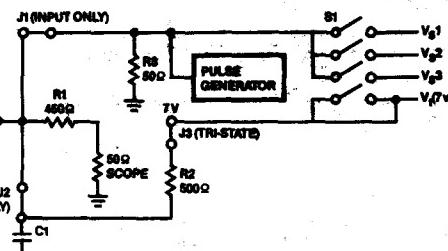
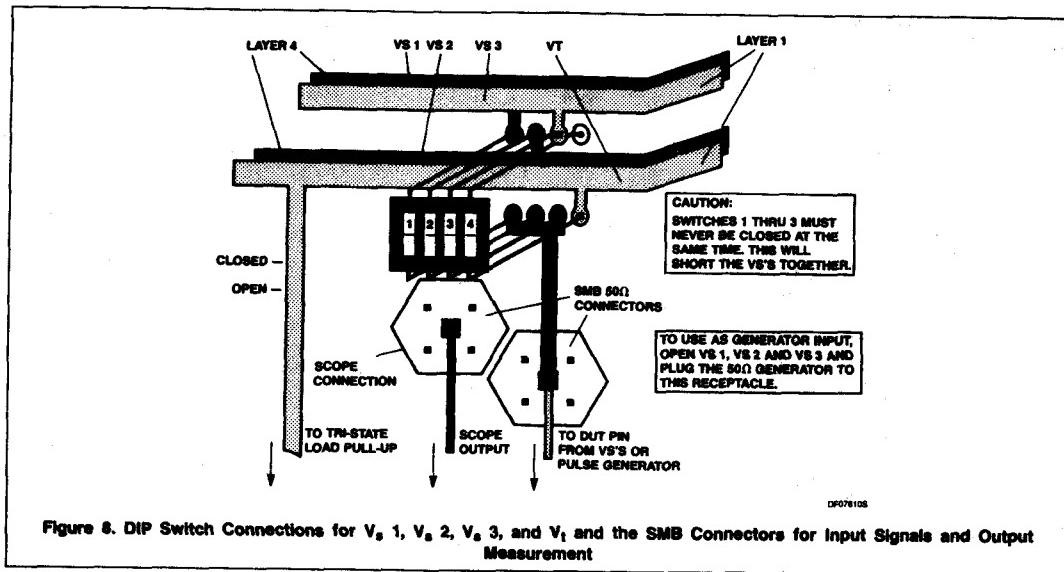

Figure 5. Signetics PCB Fixture Schematic
Figure 8. DIP Switch Connections for  $V_s$  1,  $V_s$  2,  $V_s$  3, and  $V_t$  and the SMB Connectors for Input Signals and Output Measurement
There are two types of signal lines on this fixture: input and output; both of which are 50Ω transmission lines. The input line is on the top side of the board and is always terminated in 50Ω. It is connected to the DUT via a .3" jumper, Jumper #1 for input. When this jumper is installed, the DUT pin is available only as an input. To allow this line to be used as an output, a .1" jumper, Jumper #1 for output, is used instead of the .3" jumper. This connects the DUT pin to the AC load when the DUP pin is an output. See Figure 5.
hard to detect errors into the waveform. The second reason being that most suppliers of these technologies provide data based upon the Low-impedance approach and most large users of these products do so as well. This also allows the fixture to be used for ECL testing since that product uses a totally 50Ω environment. Figure 5 illustrates how this test fixture implements the 50pF/500Ω load schematically.
As illustrated in Figure 5, the load is shared with the 50Ω input of the measurement system; a 50Ω sampling oscilloscope. The 450Ω resistor: R1, is soldered to the socket pin of the device and is in series with the 50Ω input of the scope. Figure 6 illustrates this on the board layout of one input/output pin. This allows virtually a probe tip on the device pin. The load capacitor: C1, is a 33pF ceramic chip capacitor. This is added to the measured value of 17pF of board capacitance, achieving the 50pF value specified for the load. The distance from the pin to the capacitor is .5 inches and is adequate for the testing of these product families.
For testing 3-State parameters, the 500Ω resistor: R2, is connected to its pull-up supply: Vt via a .3" jumper: Jumper #2. The Vt supply is bussed to each pin and may or may not be connected with that jumper. See Figures 5 and 6.
When the input is not used for a signal input, the line may be switched to one of three voltage sources:  $V_s$  1 through  $V_s$  3, by the use of a DIP switch on each pin. It may also be left open and then the  $50\Omega$  pull-down resistor: R1, pulls the line to ground and can be used as a hard low level. See Figure 5. These voltage levels are brought in from external supplies through banana connectors like  $V_{CC}$ . This scheme eliminates excessive cabling to each input to provide the static input levels and thereby reduces parasitic inductances and cross-talk. Each of the 3 busses and the  $V_t$  bus all have places for by-pass capacitors in the event of noise on the static levels. Figure 8 illustrates the DIP switch and SMB connectors and how they control the input stimulus and output measurement.
As stated previously, the measurements are made with  $50\Omega$  sampling systems. The connections to these systems are made via SMB connectors. This was chosen since it is compatible with SMC; it is push-on, it is small for easy configuration, and it is capable of high bandwidth operation. Figure 8 illustrates where the connections are made, where the pulse generators connect to the input and an SMB connector. Since the  $450\Omega$  resistor: R1, is soldered directly to the pin of the device, the actual probe tip is at that point. See Figure 6. This has the advantage of eliminating any distance from the device to the probe tip, thus guaranteeing accurate results.
dedicated fixture. However, on a dedicated fixture, the pins are individually constructed to be either an input or an output, and in so doing, the fixture is useable for 1-to-4 devices. The Signetics fixture, once dedicated to a particular  $V_{CC}$  and GND configuration, is built up to have both input and output components on all signal pins. The selection of which pin is an output or an input is made by inserting the appropriate jumper. See Figures 5 and 6. The same applies in doing tri-state testing. The tradeoff here is that it would probably take less time to setup the dedicated fixture than the Signetics fixture. To help compensate for that tradeoff, we have the three  $V_s$  supplies that may be switched into any pin to provide input static levels and eliminate the need to bus input High or Low levels by external cabling. For the user that means the only connections being made to the fixture are:
- the  $V_t$  supply (banana jack): this is the tri-state pull-up voltage and is permanently connected to the bus to each pin. It is selectable by Jumper #2, see Figures 5 and 6. For FAST and ALS products this is 7V. For ACL products this is  $V_{CC} \times 2$  and it is not used for ECL applications.